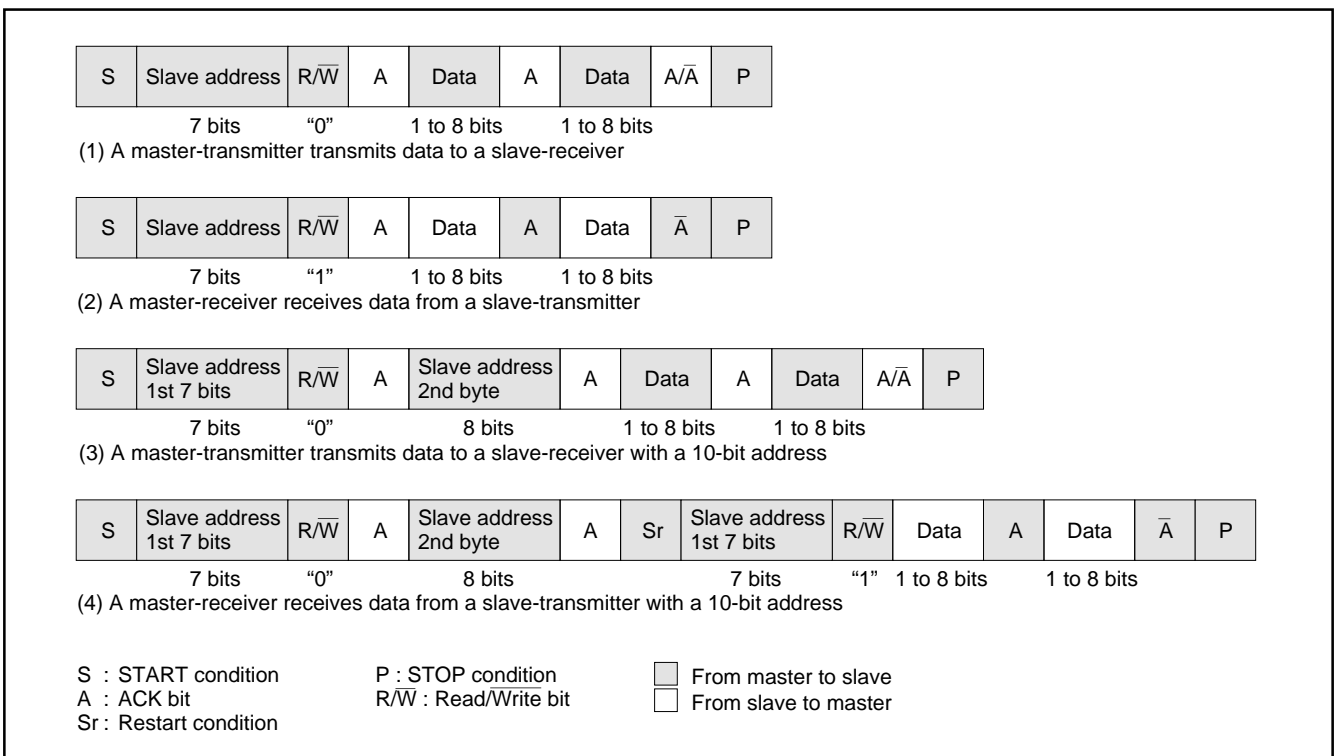

Fig. 49. Address data communication format
To meet the 7-bit addressing format, set the 10BIT SAD bit of the I²C control register (address 00F9₁₆) to "0." The first 7-bit address data transmitted from the master is compared with the high-order 7-bit slave address stored in the I²C address register (address 00F7₁₆). At the time of this comparison, address comparison of the RBW bit of the I²C address register (address 00F7₁₆) is not made. For the data transmission format when the 7-bit addressing format is selected, refer to Figure 49, (1) and (2).
When the first-byte address data matches the slave address, the AAS bit of the I²C status register (address 00F8₁₆) is set to "1." After the second-byte address data is stored into the I²C data shift register (address 00F6₁₆), make an address comparison between the second-byte data and the slave address by software. When the address data of the 2 bytes matches the slave address, set the RBW bit of the I²C address register (address 00F7₁₆) to "1" by software. This processing can match the 7-bit slave address and $\overline{R/W}$ data, which are received after a RESTART condition is detected, with the value of the I²C address register (address 00F7₁₆). For the data transmission format when the 10-bit addressing format is selected, refer to Figure 49, (3) and (4).